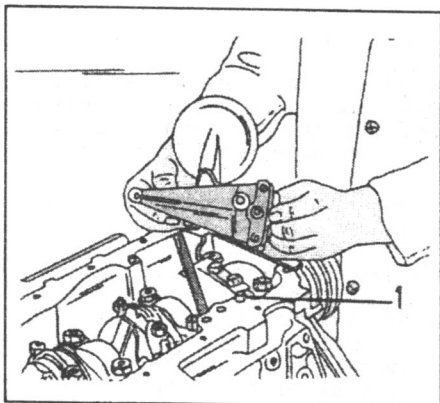

Fig. 1.78. — Removal of the oil pump. A dowel sleeve (1) locates the pump on the crankcase face.
- The oil pump can now be seen at the bottom of the crankcase. Fig. 1.78 shows the location with the engine removed. Unscrew the pump and withdraw it from the crankcase. The drive shaft can also be withdrawn from above.
- At the bottom of the crankcase check that the dowel sleeve (1) in Fig. 1.78 is in posi-